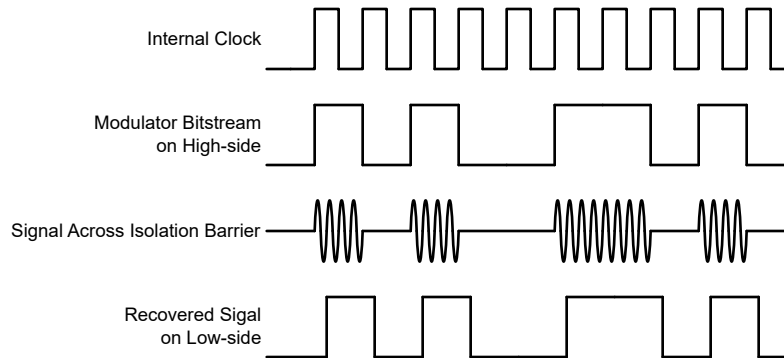

Figure 6-1. OOK-Based Modulation Scheme
The AMC0381D-Q1 uses an on-off keying (OOK) modulation scheme, as shown in Figure 6-1, to transmit the modulator output bitstream across the SiO₂-based isolation barrier. The transmit driver (TX), as illustrated in the Functional Block Diagram, transmits an internally generated, high-frequency carrier across the isolation barrier to represent a digital *one*. However, TX does not send a signal to represent a digital *zero*. The nominal frequency of the carrier used inside the AMC0381D-Q1 is 480MHz.